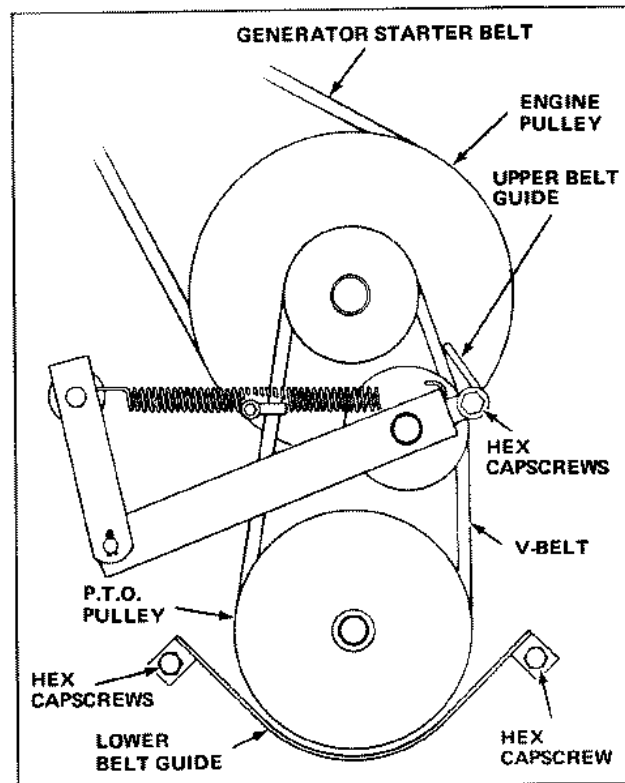

Figure 20
3. With the P.T.O. lever still in the ON position, loosen the hex capscrew which secures the upper belt guide shown in Figure 20. Adjust upper belt guide for 1/8 to 1/4 inch clearance between belt and belt guide. Tighten hex capscrew securely.
P.T.O. BELT ADJUSTMENT (See Figure 20)